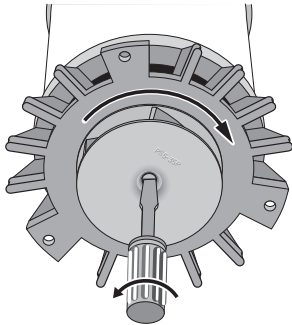

Figure 9
4. Hold the motor shaft with a screwdriver and unscrew the impeller as shown (Figure 9). The impeller has a left-hand thread, so it loosens to the right (↻).